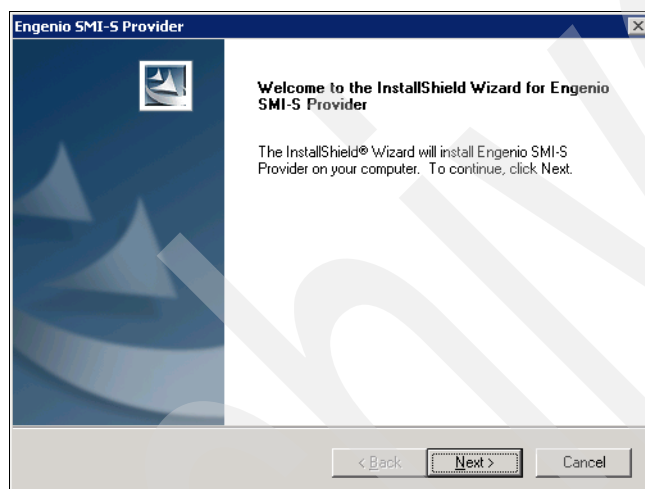

Figure 9-4 Welcome window of Engenio SMI-S Provider InstallShield Wizard
2. Extract the downloaded file and launch the installer to start the installation process. In our example, the installer file name is `Windows_Installer_09.16.G0.34_setup.exe`. Launching the executable starts the InstallShield Wizard and opens the Welcome window, as shown in Figure 9-4. Click **Next** to continue.